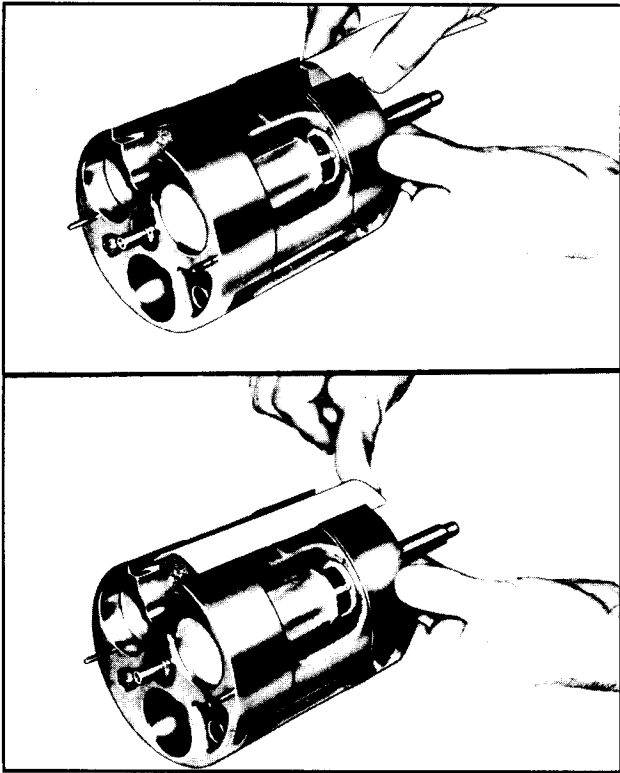

Figure 95—Installing Suction Cross-Over Cover
10. Replace the suction cross-over cover (figure 95). Compress the cover as shown to start it into the slot, and then press or carefully tap it in until flush on both ends.